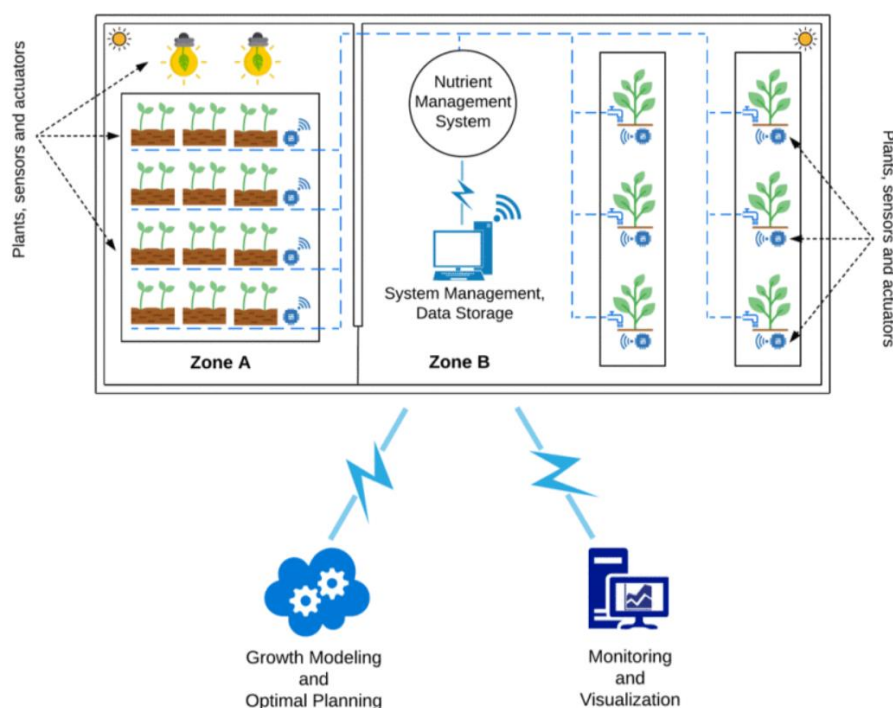

Figure. 1 (Somov et al., 2018)
- A basic framework that we can adapt to (From Figure 1.).